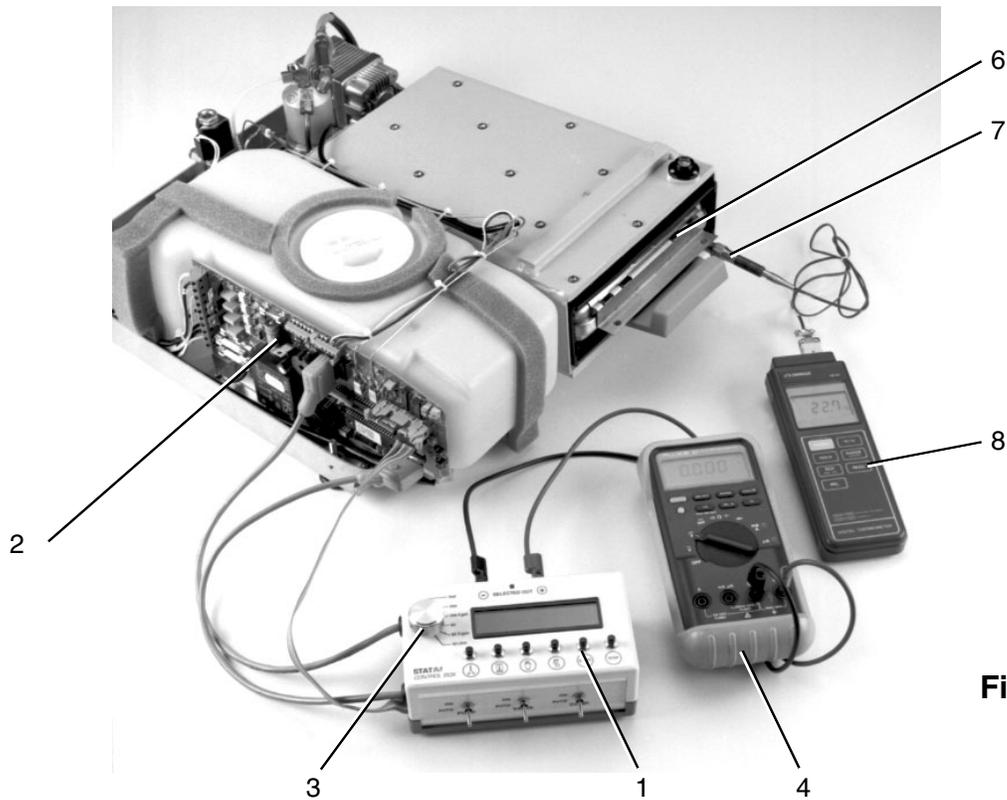

Figure 2
In calibration mode no error messages are displayed. For calibration equipment hookup and identification, observe these steps (see Figure 2):
To calibrate a unit with a Type B Controller board, follow these steps (see Figure 2):
To verify / adjust the reference voltage follow these steps (see Figure 2):
To calibrate the steam generator thermocouple, follow these steps (see Figure 2):
To calibrate the chamber thermocouple, follow these steps (see Figure 2):
3. Set the control box SELECT knob to VREF and connect a voltmeter as shown in Figure 2.